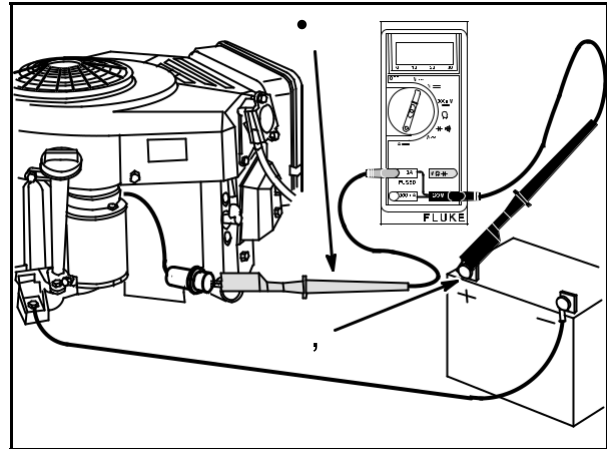

Fig. 13
Attach RED test lead clip (1) to DC output terminal, **Fig. 13**.